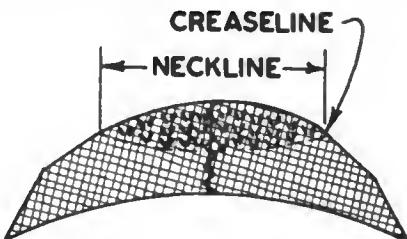

Fig. 191. Pad-stitching the stand.
- Hold the canvas toward you and pad-stitch the stand in vertical rows  $\frac{1}{4}$  in. apart. Begin at the center back and work toward the outside in both halves (Fig. 191).